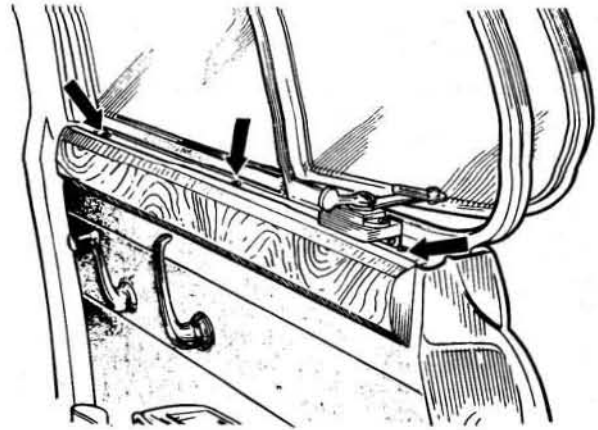

Fig.12.7. Showing the three screws securing the waist rail to the door frame
- 2 Take out the three screws shown in Fig.12.7 which hold the waist rail to the door frame and remove the waist rail.